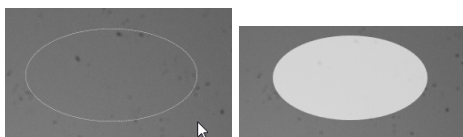

Figure 3-54 Drawing an ellipse (l), ellips ready (r)
4. Press **ELLIPS** to draw an ellipse, see **Figure 3-54** below.